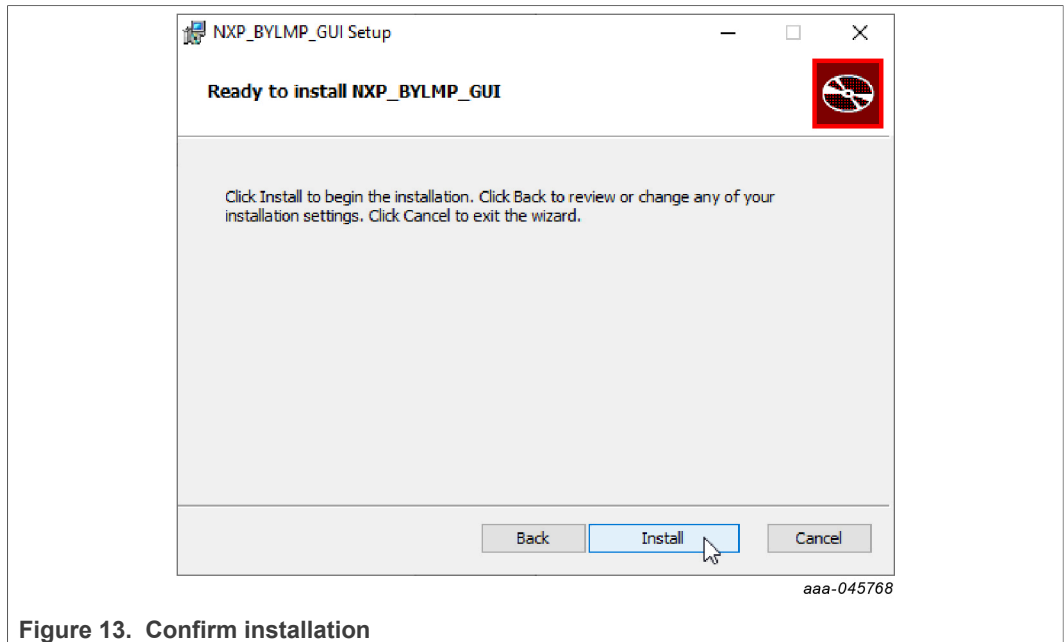

Figure 13. Confirm installation
4. Confirm the installation (Figure 13). Wait for the installation to complete.